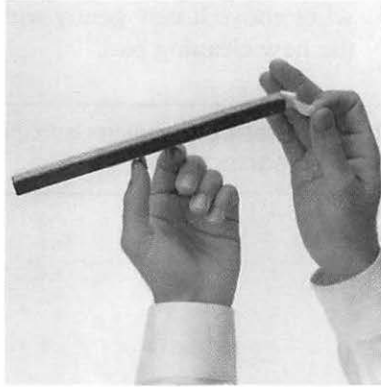

Figure 6-8
- 5. Remove and discard the white felt tip from the end of the cleaning pad. (See Figure 6-8.)**